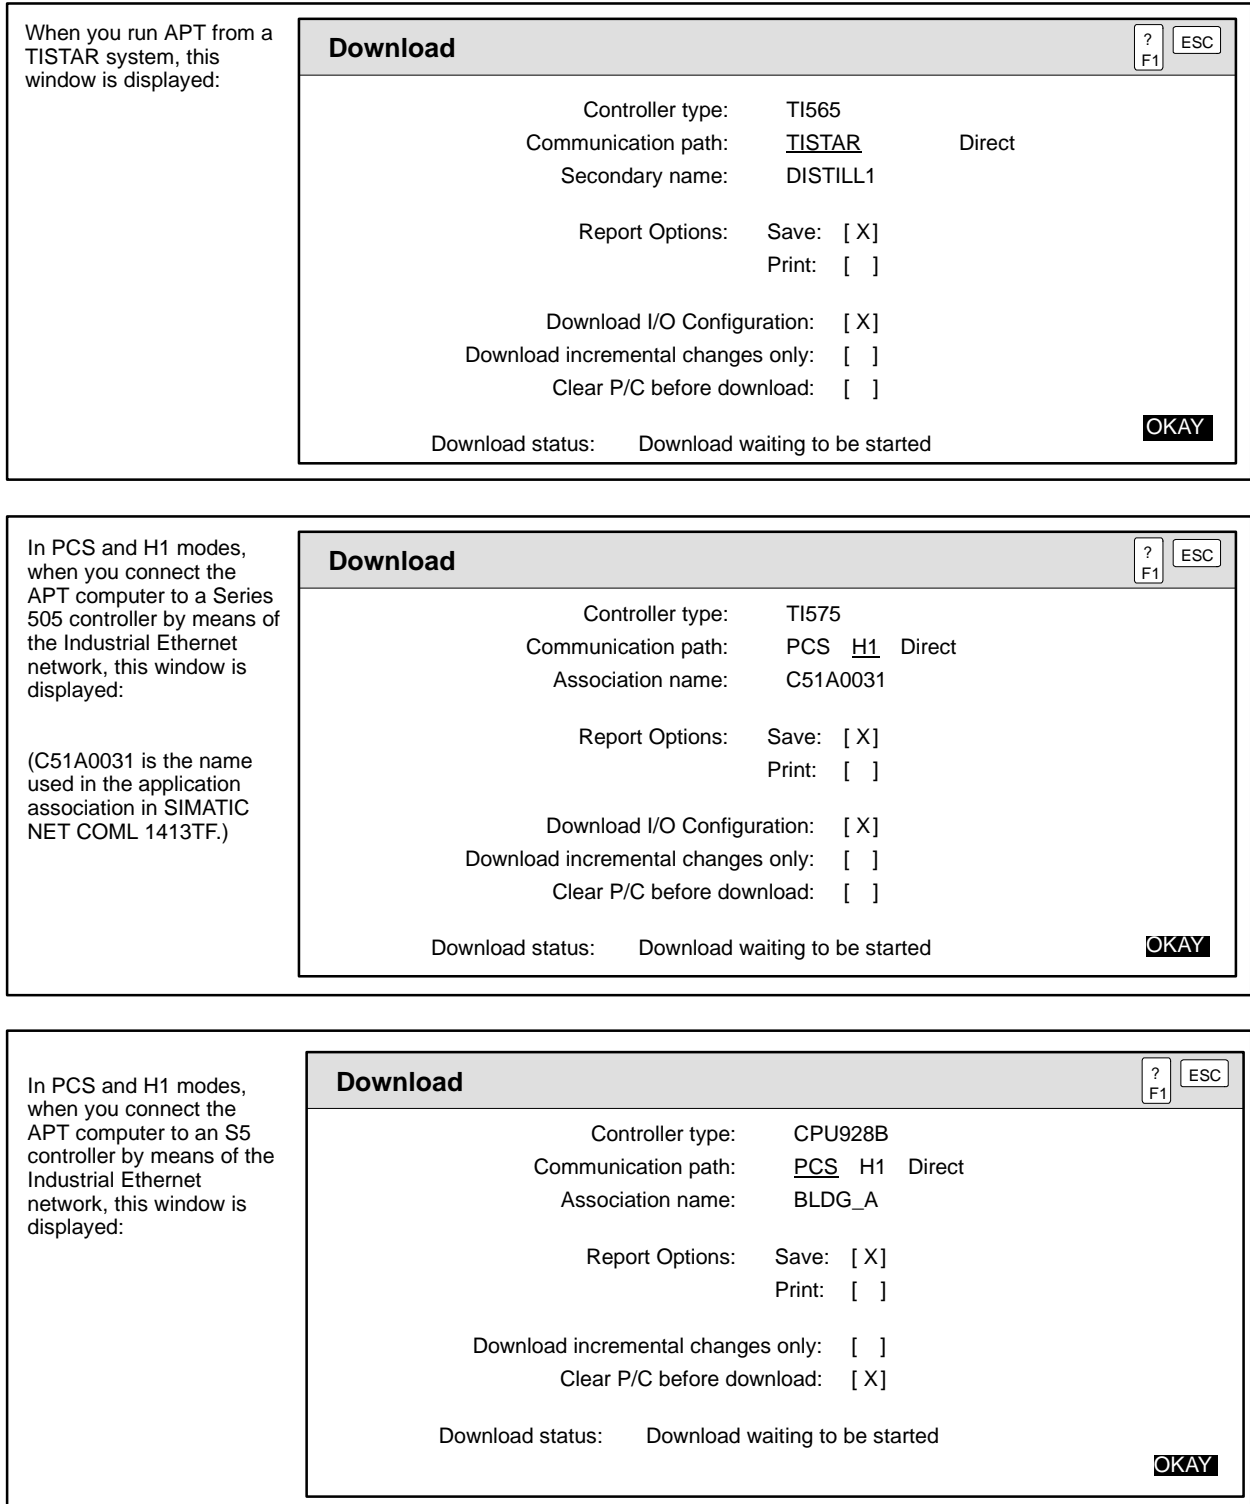

Figure 6-19 Download Dialog Windows (continued)
2. Press 4 or use the **OPTs** icon to select **Download**. The dialog window appears as shown in Figure 6-19.